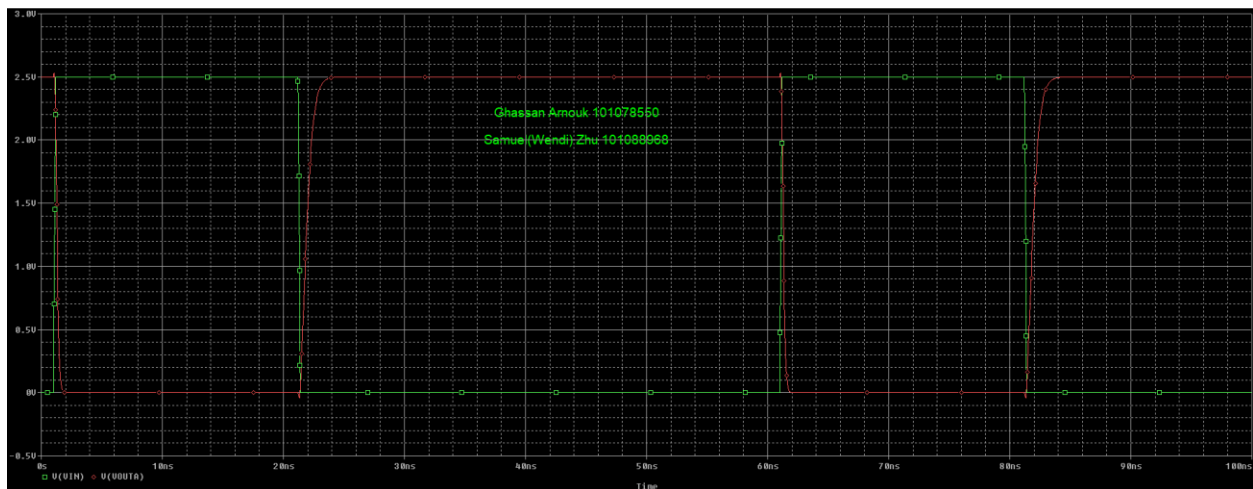

Figure 3 - Simulation waveforms for V_{IN} and V_{OUT} for the CMOS inverter in (A)
Figure 3 below shows the simulation waveforms for V_{IN} and V_{OUT} for the inverter in (A).